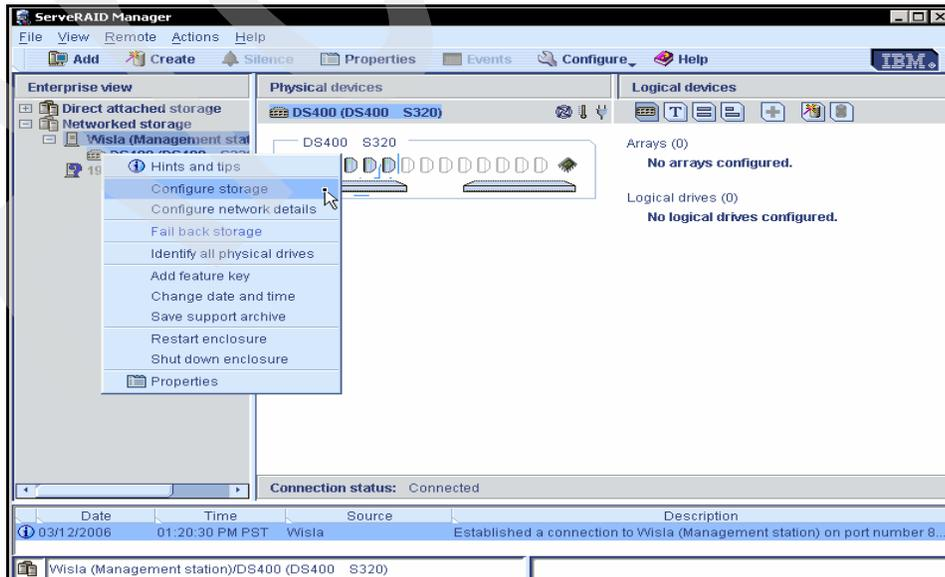

Figure 37 Configure storage
1. To configure the DS400 storage with ServeRAID, right-click the enclosure from the Enterprise view of the ServeRAID Manager program interface and click **Configure storage**, as shown in Figure 37.